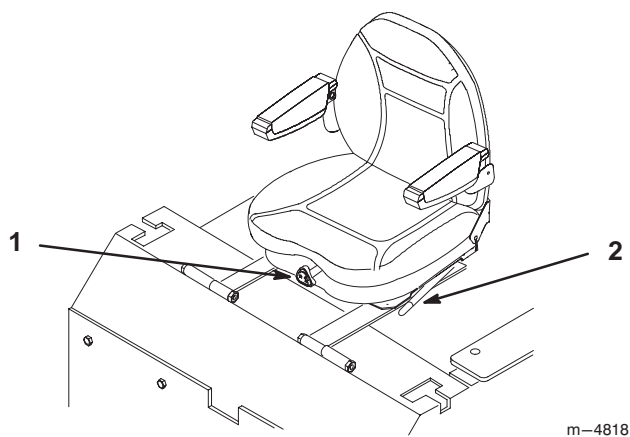

Figure 12
1. To adjust, move the lever sideways to unlock seat (Fig. 12).
1. To adjust, turn the knob in front either direction to provide the best comfort (Fig. 12).